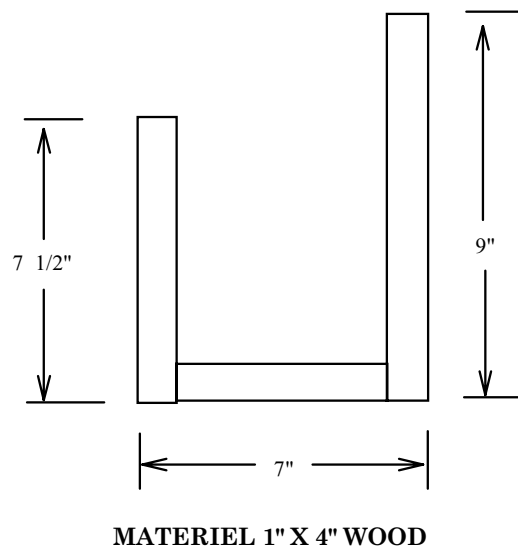

Figure 1. Probe controller support.
- a. If required to make adjustments, remove TI from case and install probe controller on mounting bracket shown in figure 1.
- b. Position switches as listed in (1) through (3) below:
- (1) **FUNCTION SELECTOR** to **OFF**.
- (2) **STD DAY** to **OFF**.
- (3) **MASTER POWER** to **OFF**.